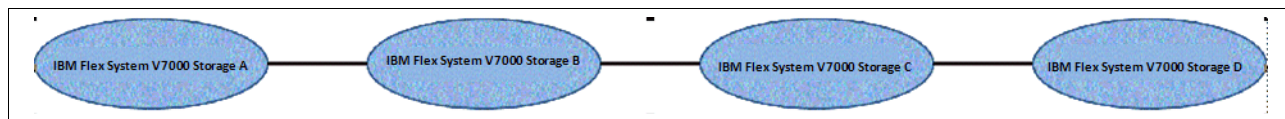

Figure 9-56 Daisy-chain topology for IBM Flex System V7000 Storage Node
- ▶ Daisy-chain topology (Figure 9-56)